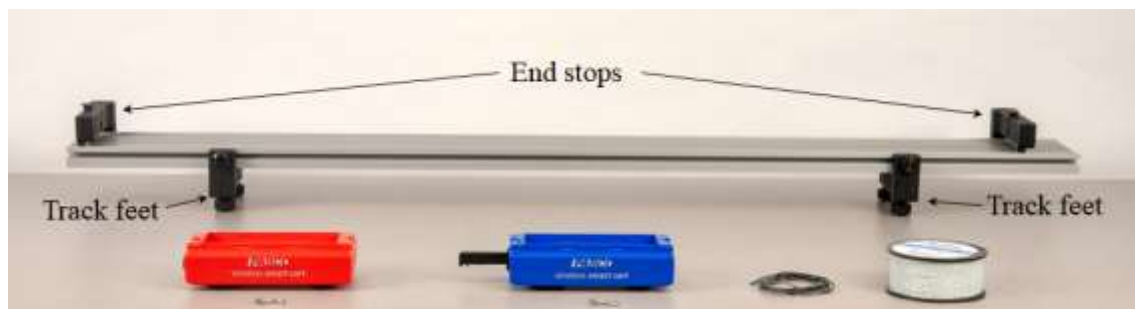

Figure 5: Experimental Setup
1. As shown in Figure 5, set up the track with feet underneath at both ends. On the upper side of the track, attach an end stop at each end.